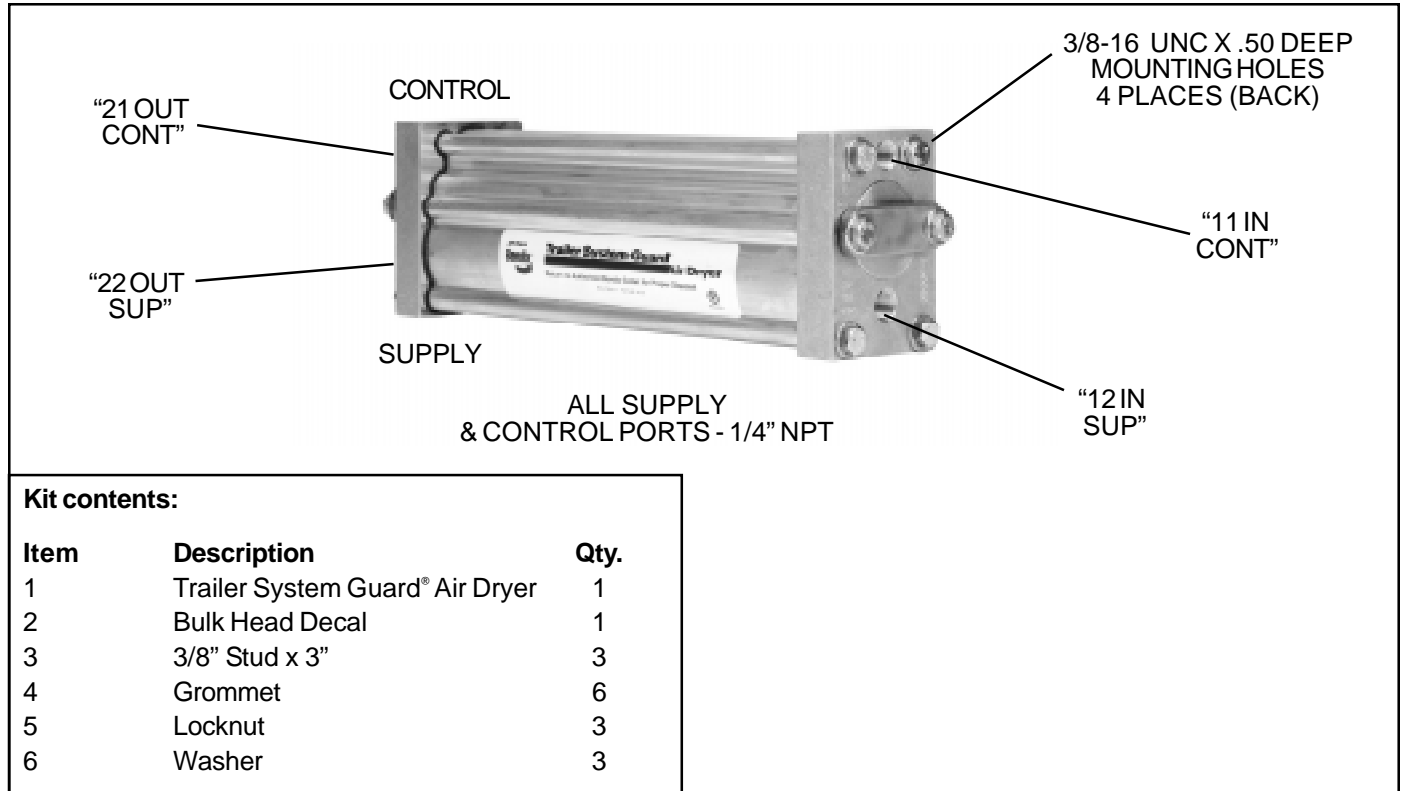

FIGURE 1 - TRAILER SYSTEM-GUARD® AIR DRYER
2. Connect the supply and control lines to the Trailer System-Guard® making sure to keep the control and supply circuits separate as shown. Do not switch lines end to end. All ports are identified as indicated in figures 1 and 2.